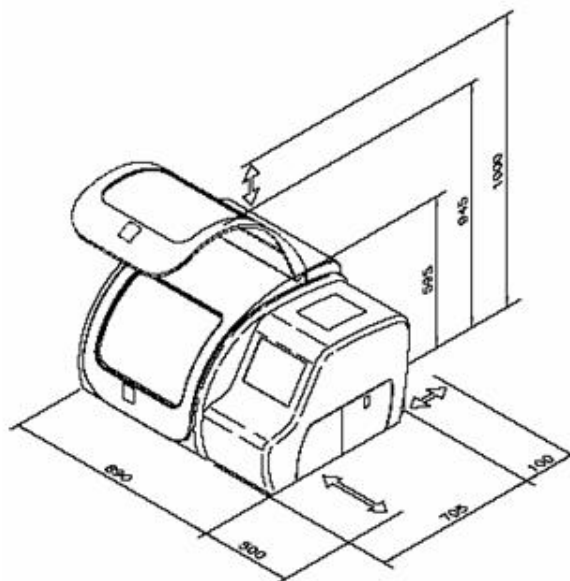

Fig. 3.1
- Workspace of at least 50 cm around the instrument. In any case, the two cooling fans located on the lower part of the rear housing must have a free space around them of at least 10 cm relative to a wall of at least 30 cm dividing the instrument from other laboratory equipment (for details, see Fig. 3.1).